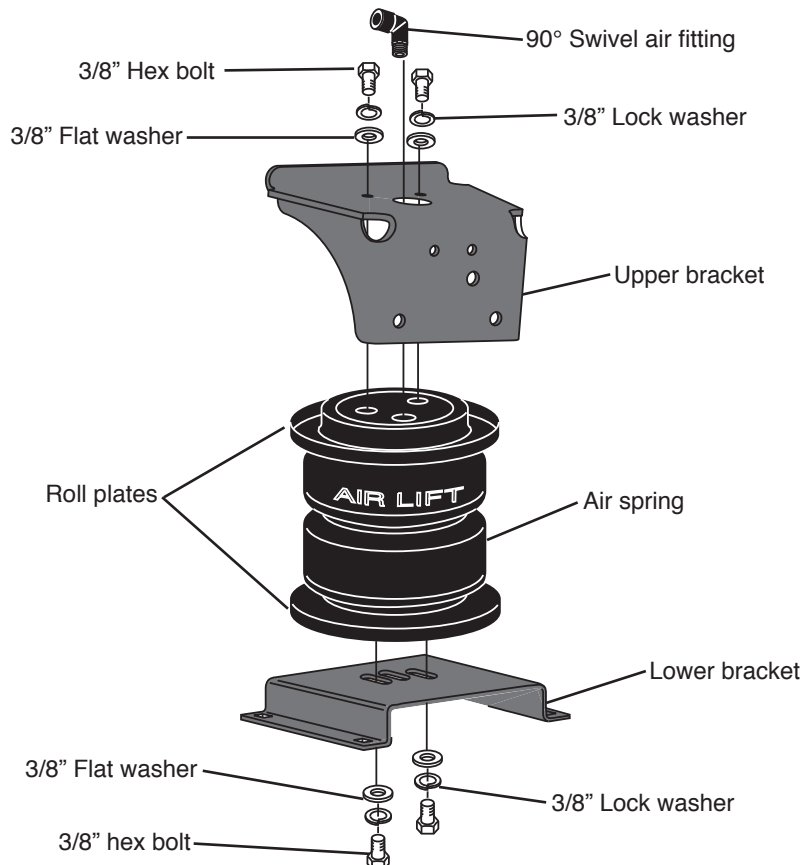

fig. 4
1. Set a roll plate (D) on both ends of the air spring (A). The radiused (rounded) edge of the roll plate will be towards the air spring so that the air spring is seated in both roll plates (fig. 4).
2. Install a 90° swivel air fitting (E) finger tight plus 1½" turns (fig. 4). Do not overtighten.
3. Place the upper bracket (B) onto the top of the bellow and roll plate with the legs facing down.
4. Set the air spring on the lower bracket (C) aligning the two holes in the base of the air spring with the two outer slots in the top of the lower bracket (fig. 4).
5. Attach the upper bracket to the assembly using flat washers (I), lock washers (J), and hex head bolts (N). Tighten securely.
6. Loosely attach the lower bracket to the assembly using flat washers (I), lock washers (J), and hex head bolts (N) (fig. 4).